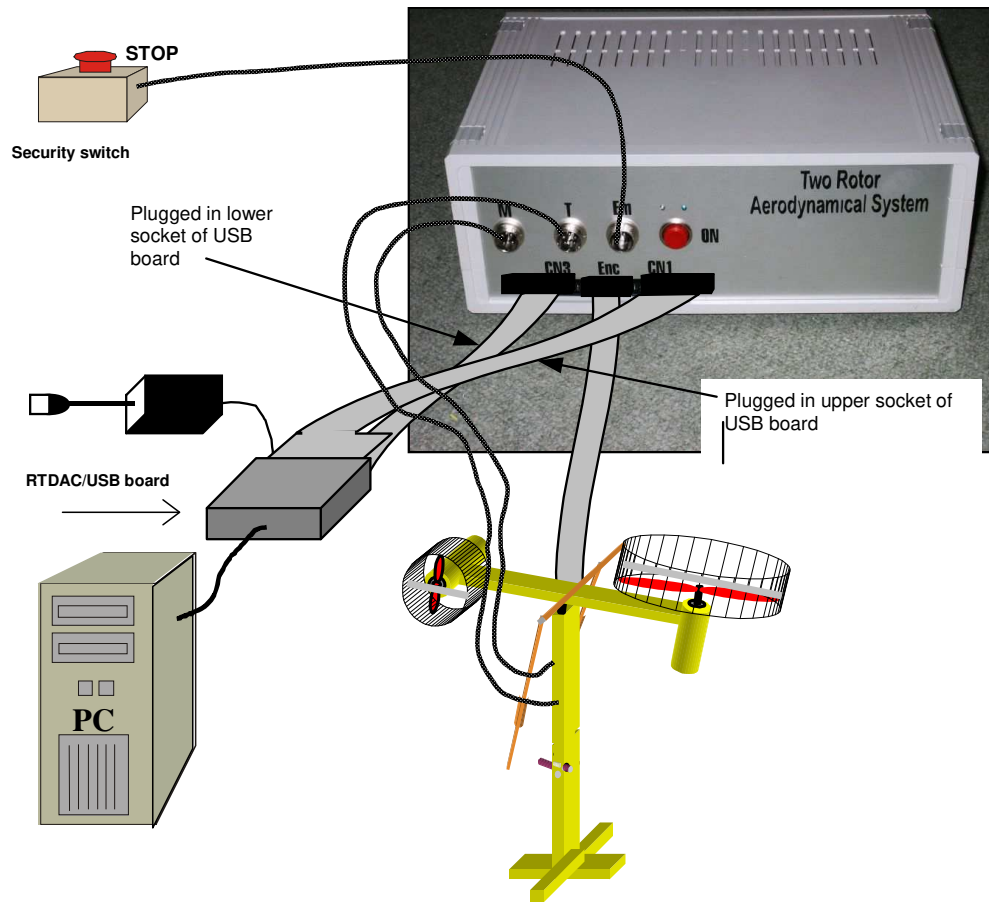

Fig. 6.1 \_Power Interface and connecting cables
The general diagram of power interface connections is given in Fig. 6.1. In order to connect cables go through the following steps:
- plug in 10-way ribbon cable from the encoders into the 10-pin socket (Fig 6.1 ).